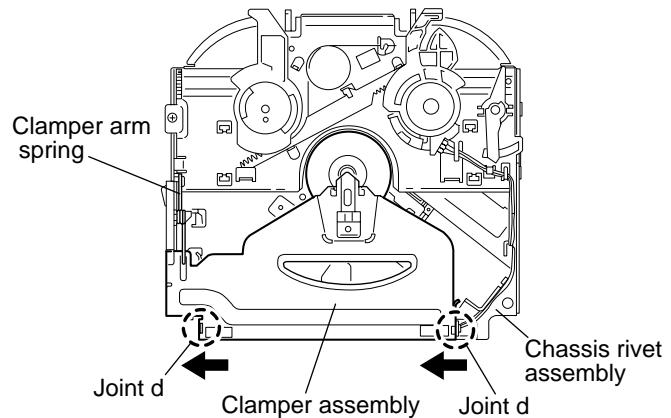

Fig.9
■Removing the clamper assembly (See Fig.9 and 10)